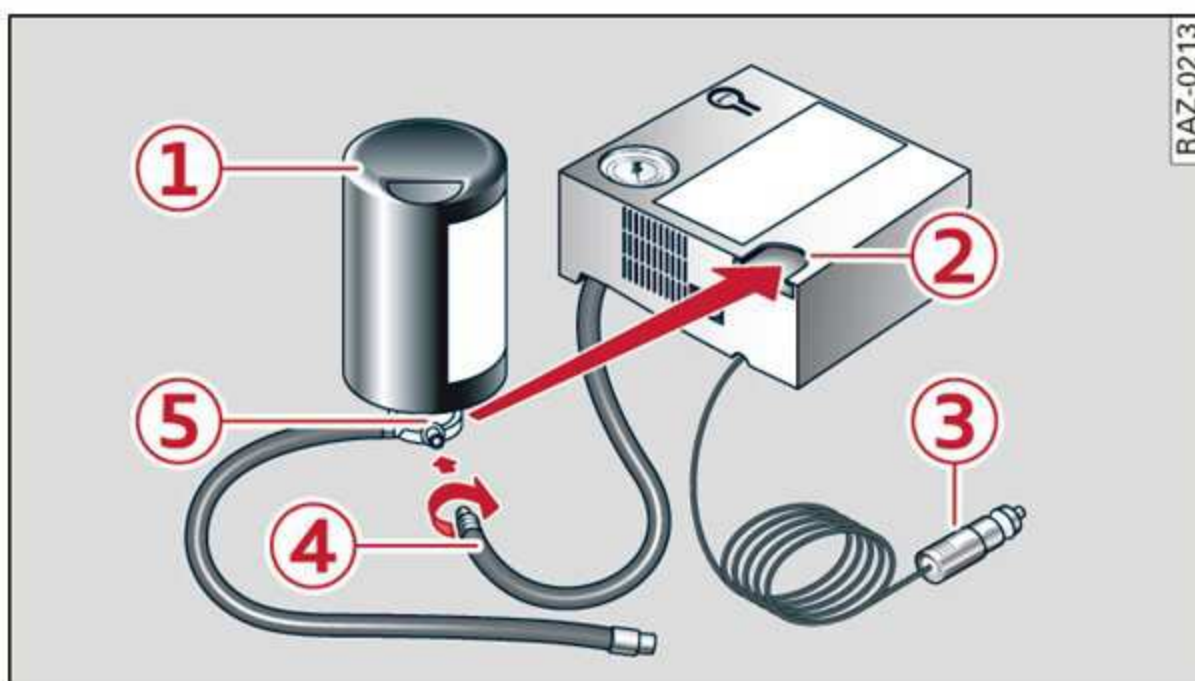

Fig. 187 Diagram: components of the tire mobility kit
- ▶ Connect the plug (3) ⇒ fig. 187 to an outlet in the vehicle.